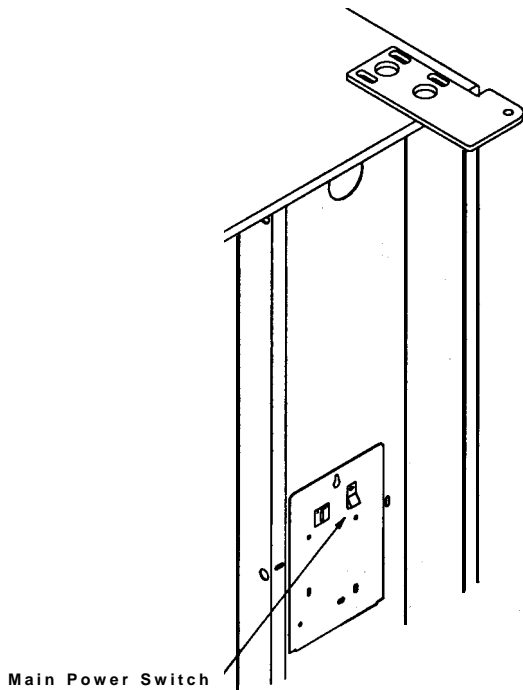

Figure 5
1. Turn off the power switch in the center right side of the cabinet. See **Figure 5**.